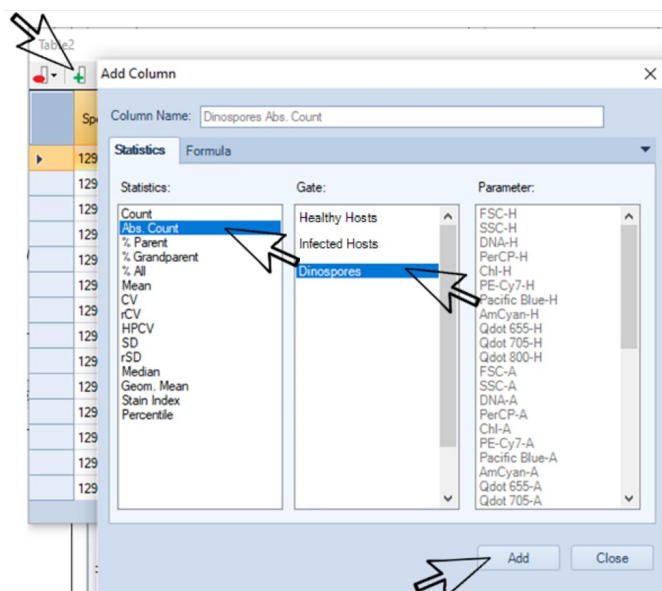

Figure 17: Selection of the types of data and gates of interest.
- d. Choose the gates corresponding to "Dinospores," "Healthy Hosts," and "Infected Hosts" (as shown in Fig. 17).
By following these steps, you can set up the statistical table in NovoExpress by selecting the desired metadata columns and adding data columns, including cell densities and specific gate populations, for analysis and further exploration. (Fig. 17).